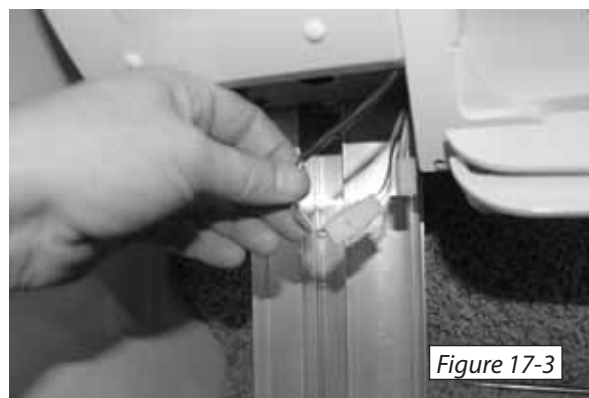

Figure 17-3
**5.** Plug the 3-pin wire connector from the seat into the mating connector from the chassis. *[Figure 17-3]*